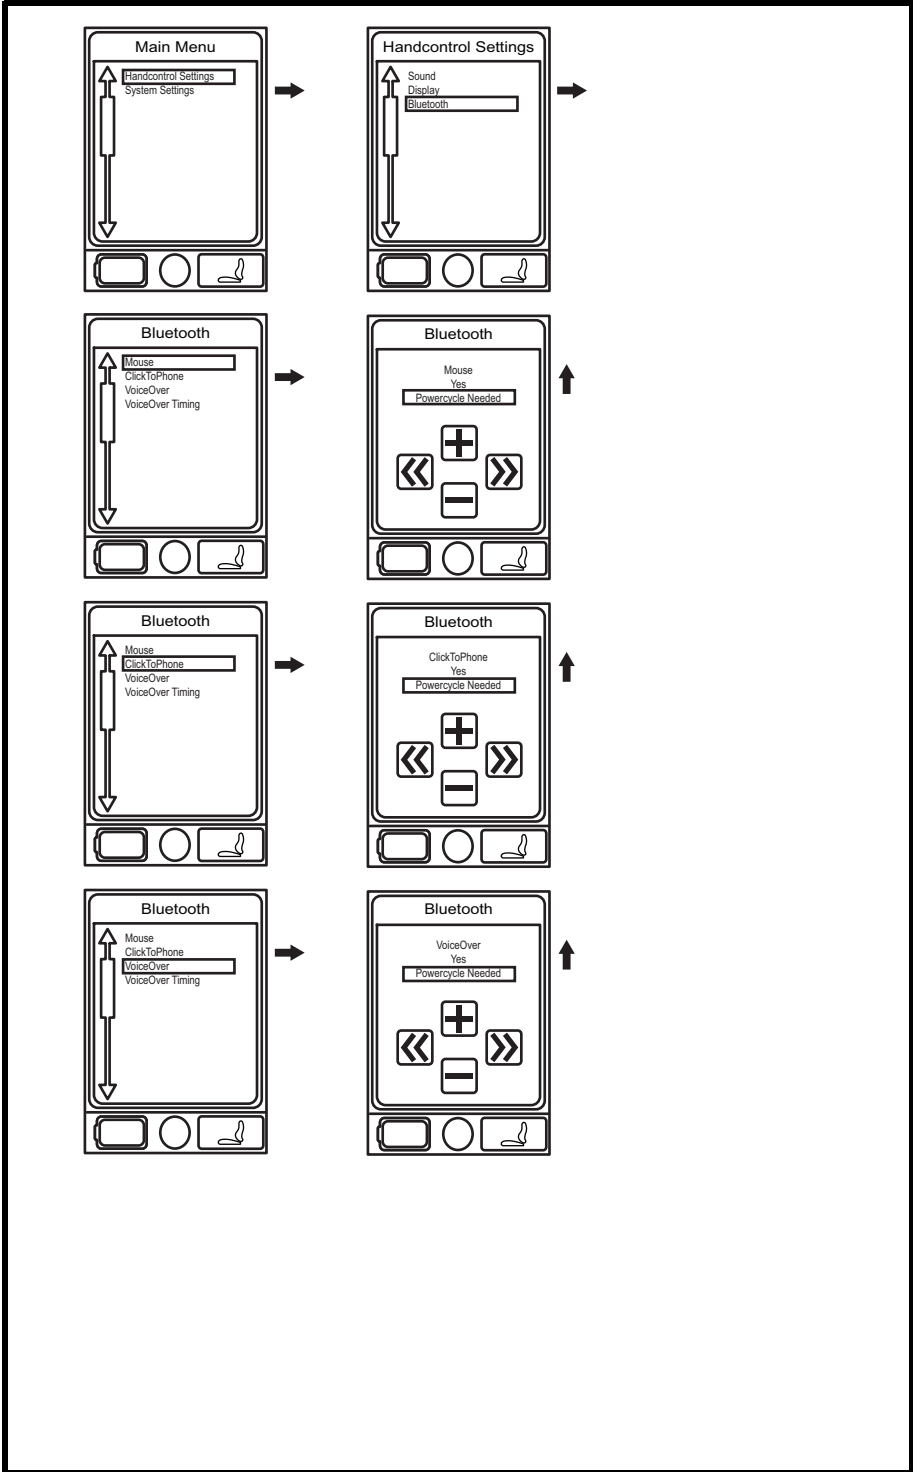

Figure 3A. Bluetooth Menu
2. Push the Menu button to access the Main Menu screen. **See figure 3A.**
3. Use the joystick to highlight the Handcontrol settings option, then push the joystick right to select that function. **See figure 3A.**
6. Push the joystick forward to enable the bluetooth screen. **See figure 3A.**